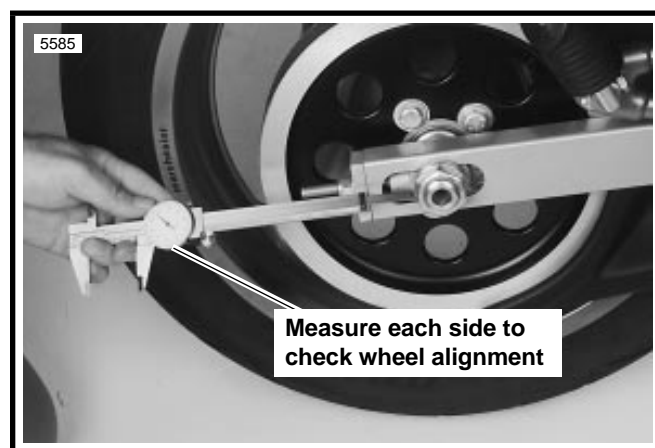

Figure 1-23. Checking Rear Wheel Alignment, Right Side Shown
3. See Figure 1-23. Measure each side from the flat to the end of the swingarm, to be sure rear axle is correctly located.